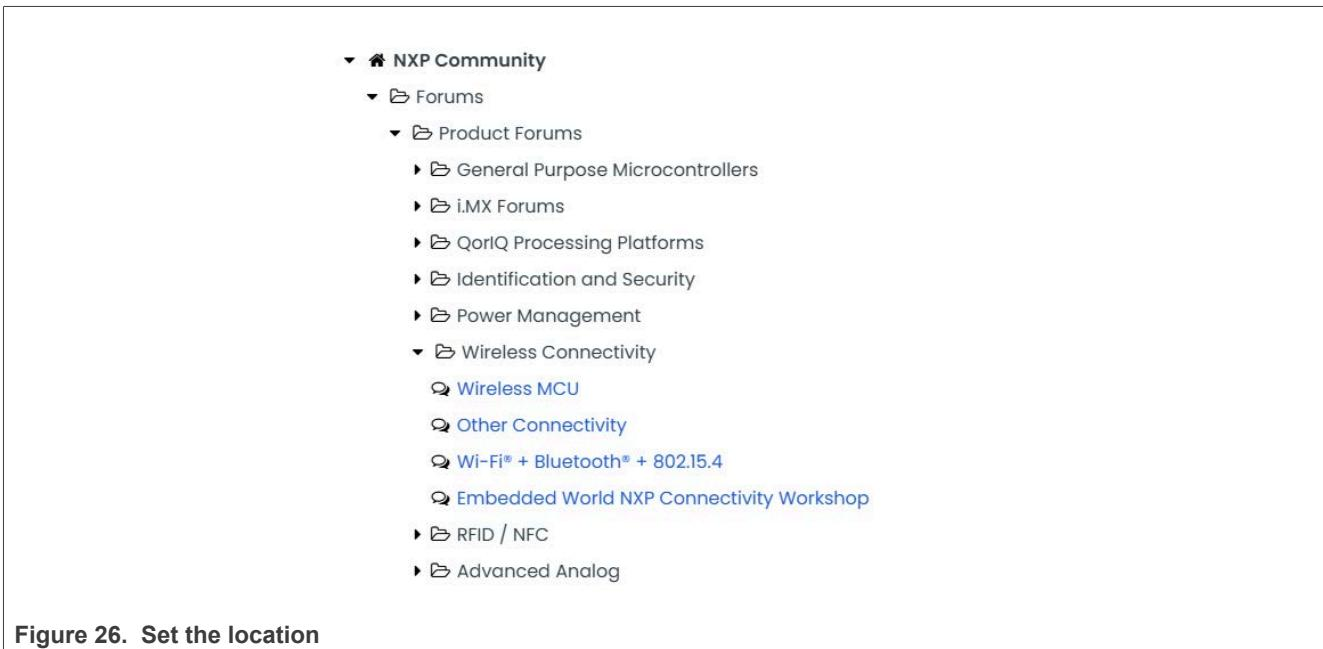

Figure 26. Set the location
Step 5 – Set the location to NXP community > Forums > Product Forums > Wireless Connectivity > Wi-Fi + Bluetooth + 802.15.4. (Figure 26).